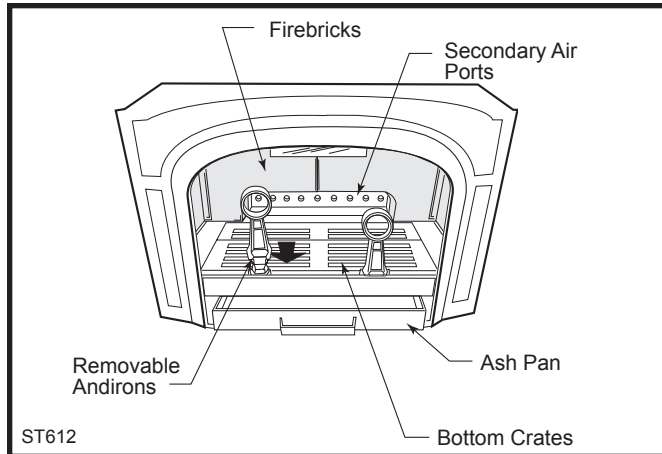

Fig. 15 A look inside the firebox of the Resolute Acclaim.
**IMPORTANT:** The andirons must be in place during operation. (Fig. 15) They not only help keep the **glass door panel** clear for fireviewing, but they assure proper placement of the fuel load for efficient clean-burning operation.